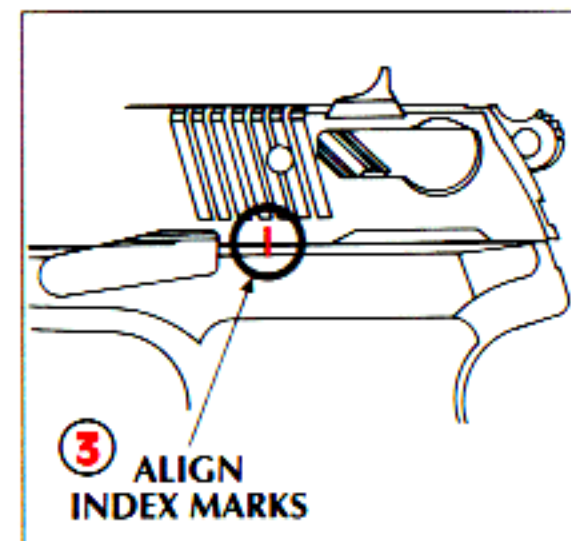
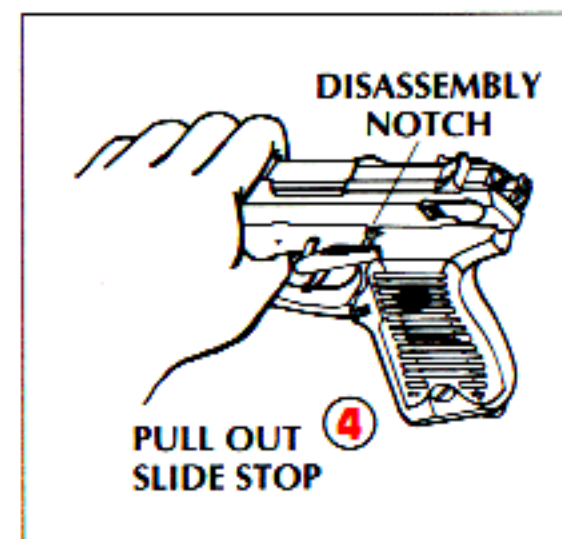

FIGURE 4
FIGURE 5
4. Remove fingers from ejection port. Grasp slide tightly. Now press down on slide stop and allow slide to move slowly forward until the vertical disassembly line on the frame is aligned with the vertical disassembly line on the slide (See Figure 4, below). Press in on right-hand end of slide stop and pull slide stop out of frame to the left until it is withdrawn completely out of the frame. (See Figure 5, below).